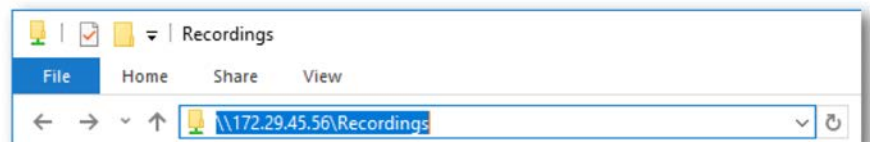

Figure 4.15: Windows® Explorer IP adress
- IP address based: \\<IP address>\Recordings (see Figure 4.15)